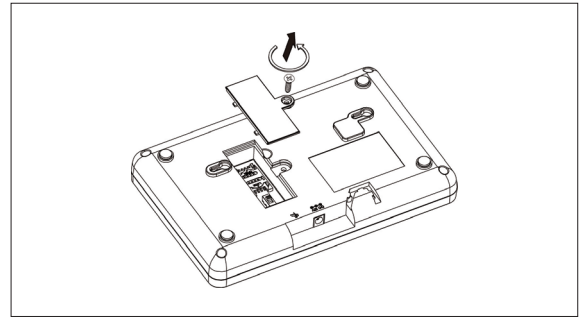

Figure 1
1. Remove the control panel SIM-card and battery compartment cover on the back. Figure 1.